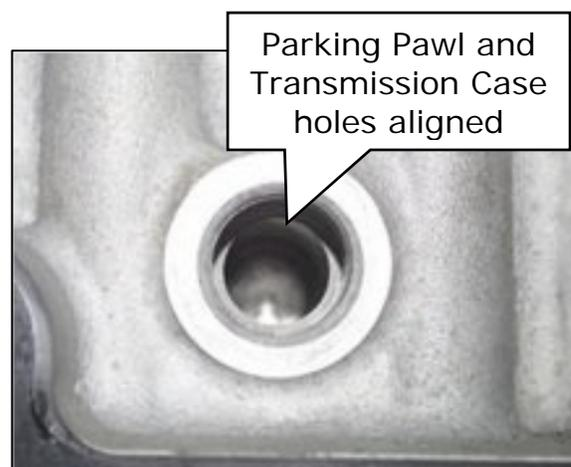

Figure 18
- Remove the Phillips head screwdriver and verify the Parking Pawl and the Transmission Case holes are aligned as shown in Figure 18.